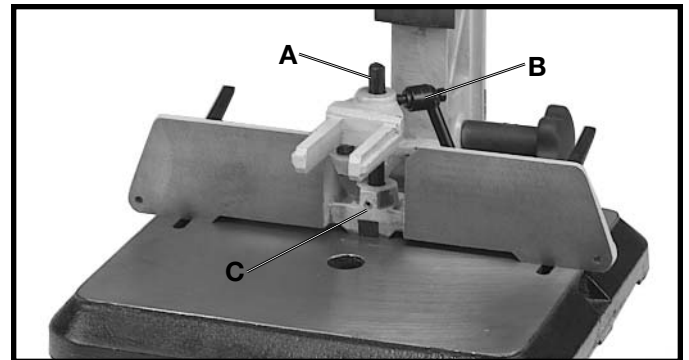

Fig. 19A
9. Loosen the holddown knob (B) Fig. 19A and remove the hold down. Loosen set screw (C) and removed holddown rod (A) and replace with the extended hold down rod. Tighten set screw (C). Place the hold down (B) on the hold down rod and tighten hold down handle (B).